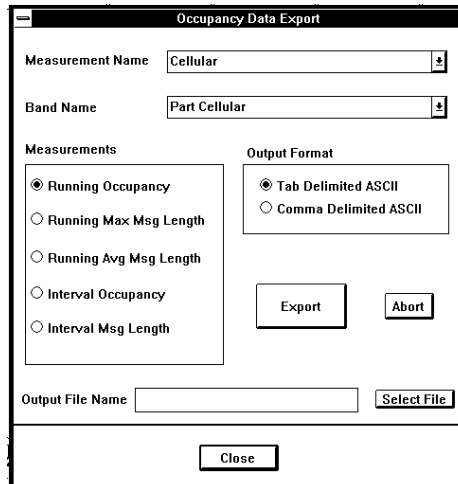

Figure 9-4: Occupancy Data Export Dialog Box
1. Select **Occupancy Data...** from the Export Data selection list to open the **Occupancy Data Export** dialog box (Figure 9-4).